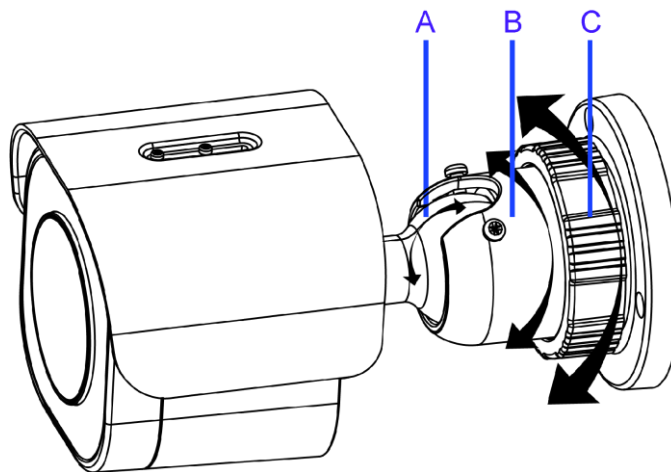

Figure 6
The camera has three axes to adjust the field of view for different Applications (Figure 6). While screening live view on your monitor, adjust the axes as per the information below.
- **Tilt Adjustment (A – Figure 6)** Tilt this joint to adjust the camera vertically. The Tilt range is 0° – 90°.
- **Pan Adjustment (B – Figure 6)** Rotate this joint to adjust the camera horizontally. DO NOT rotate over the default limit of ± 360°.
- **Locking Ring (C – Figure 6)** Rotating the C ring counter-clockwise, the Pan & Tilt joints loosen and you can adjust for different angles. Rotating the C ring clockwise fastens the pan & tilt joints altogether.